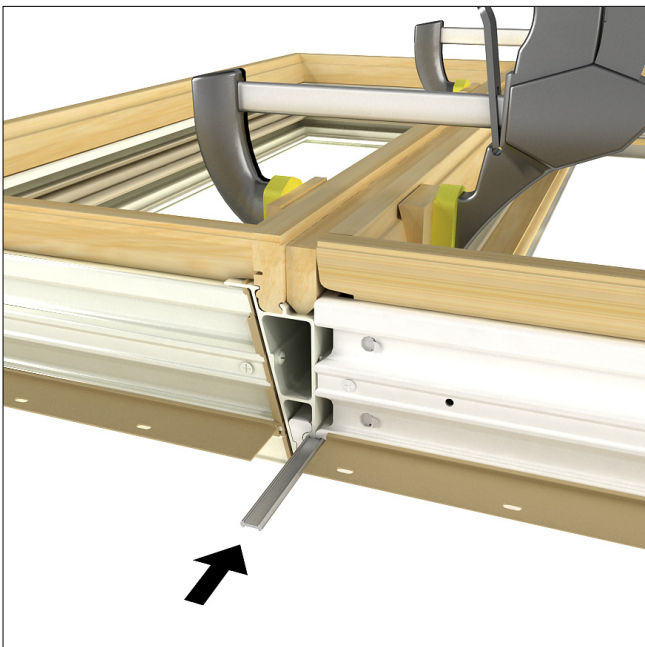

Figure 12
4. Slide the mulling pin in the full length of the mullion. A hammer may aid in the application of the mull pin. The mull pin ends must be recessed 1/4" (6) to allow sealant application later. See figure 12.